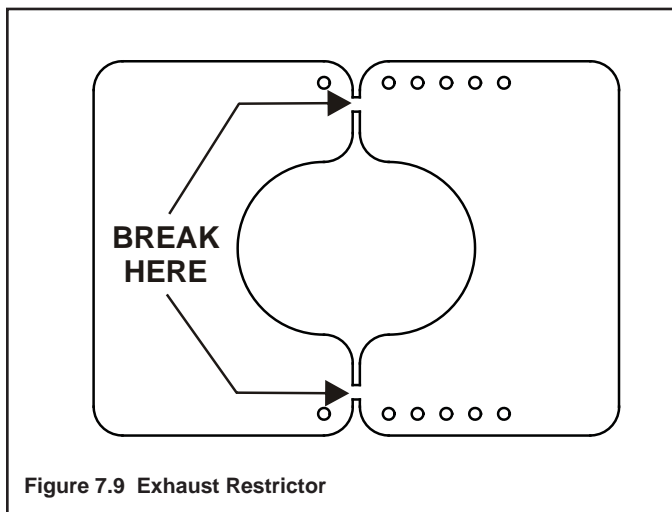

Figure 7.9 Exhaust Restrictor
2. Break the exhaust restrictor into two pieces. Do this by bending the part back and forth until it breaks (see Figure 7.9).